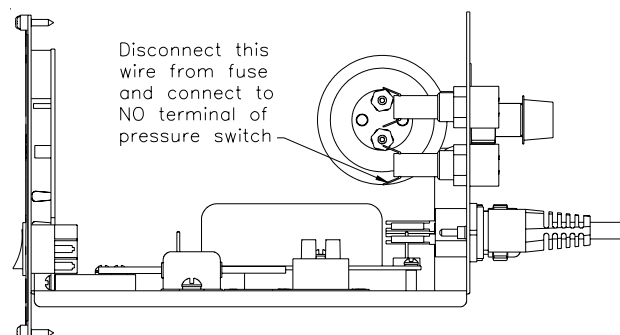

Figure 2
3. Disconnect the wire from the bottom of the lower fuse and connect to the normally open terminal of the pressure switch (see Figure 2). Leave the other end of this wire connected as is.
4. Connect wire supplied with pressure switch from COM terminal of pressure switch to lower end of bottom fuse shown in Figure 2.